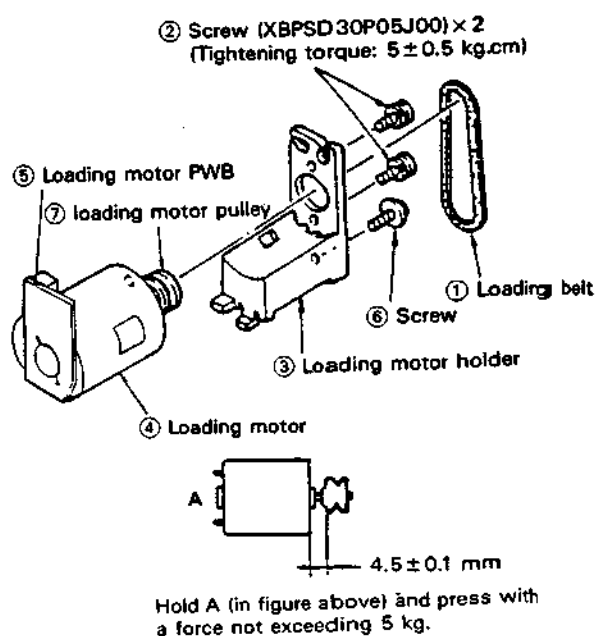

Figure 1-29.
• Replacement (Fig. 1-29.)
3. Remove the loading belt ①.
4. Remove the cup-tight screw ⑥ (XHPSD-30P08WSO). Tilt the mechanism chassis for easy removal.
5. Remove the two screws ② (XBPSD30P05J00) and remove the loading motor ④ from the loading motor holder ③.
6. Remove the loading motor PWB ⑤.
7. Replace the loading motor along with the pulley ⑦.